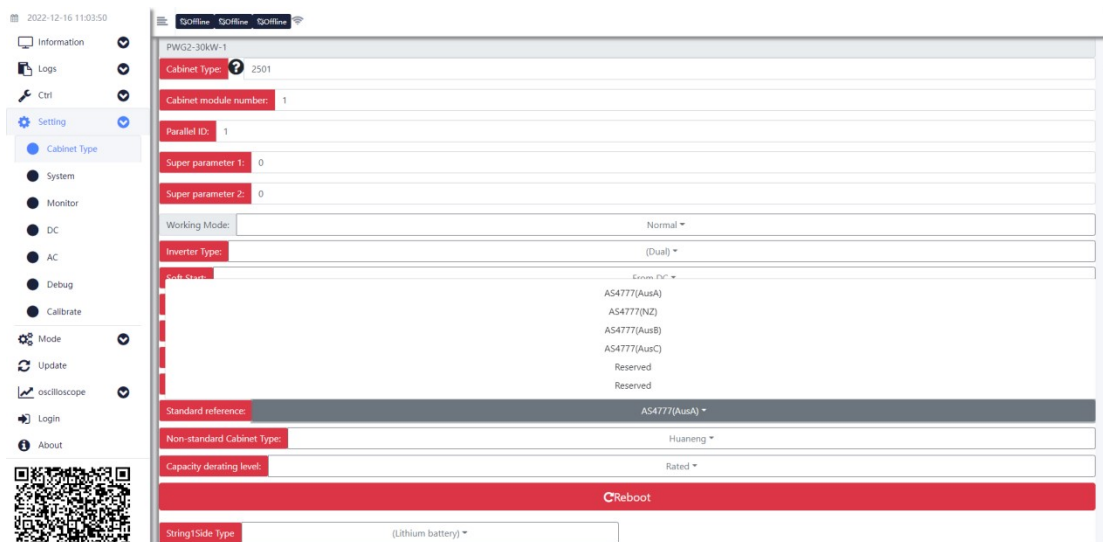

Fig 4-7 Model settings
(1) Close DC breaker D1 of battery cabinet, the converter will be powered-on. And the LCD is on and initializing. After about 10s, LCD will indicate such warning information as "Alarm: 0103". (It represents AC undervoltage and AC underfrequency.)
(2) The converter is defaulted to operate in grid-tied mode. Close AC breaker D3.
(3) In the case of the first startup, the converter should first perform important parameter settings and confirmation. After completion, if the inverter is powered on again, this step can be skipped. First, click the "Settings" tab on the left side of the webpage, open the "Model Settings" to display the interface shown in Figure 4-7, and then confirm the rated voltage level and frequency level of the AC side and the incoming line of the AC side according to the actual situation of the local power grid. Can select the power quality response mode and grid protection Settings for Regions A, B and C in Australia. Then select the corresponding battery type in "branch 1 DC connection type" according to the battery type actually connected to the DC side of the machine; after the model parameters are set, click "restart the whole machine", the machine re-enters the initialization, and then waits for After the webpage is refreshed, the important model parameter settings are completed.